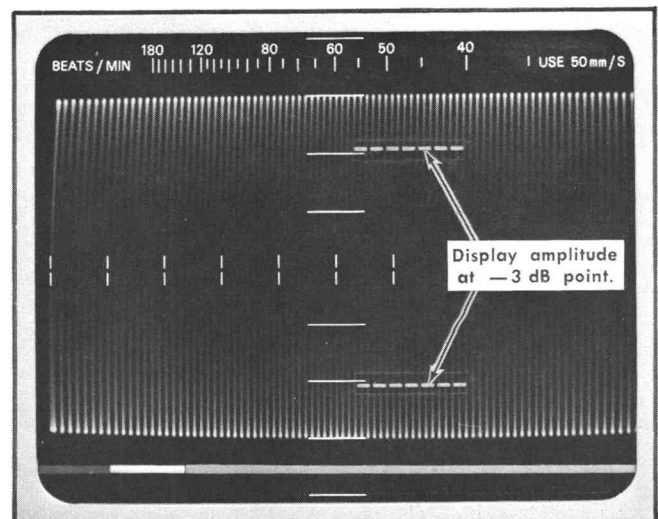

Fig. 5-5. Typical CRT display when checking high frequency -3 dB point.
c. With the display centered, slowly increase the sine-wave frequency until the display amplitude decreases to 4.2 centimeters. See Fig. 5-5.